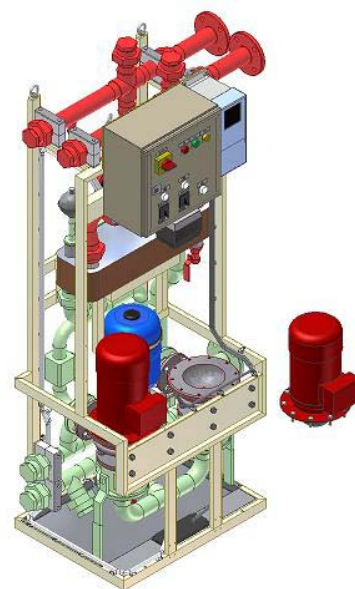

Figure 6.2-1
8. Remove the bolts and nuts from the pump motor flange. Therefore leaving the pump housing in place (Figure 6.2-1). Note that there is a pre-pressure of 1.5 bars in the system; use safety goggles.